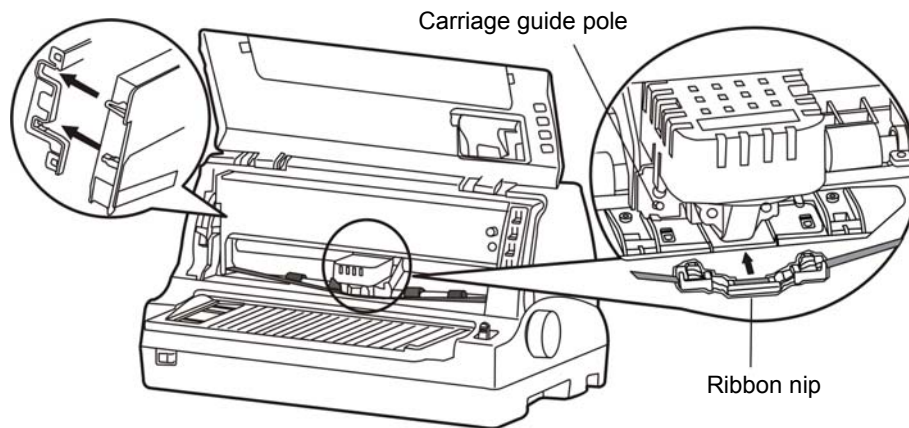

Figure 2-10 Installing the ribbon cassette
6. As figure 2-10 shown. Hold both sides of the ribbon cartridge, then press it down firmly to fit the hooks into the install grooves of the printer. Then aim the two round holes of the ribbon nip at the